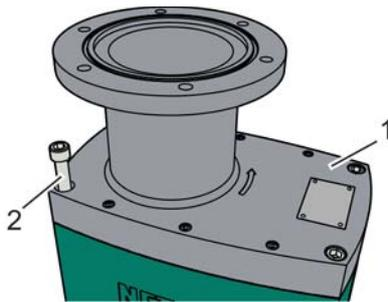

Fig. 82: Attaching the gear
17. ▶ Insert the attachment bolts (Fig. 82/2) at the corners of the gear (Fig. 82/1) and tighten by hand.
18. ▶ Tighten the attachment bolts (Fig. 82/2) crosswise with the prescribed torque (🔧 *Appendix "Screw tightening torques" on page 131*).